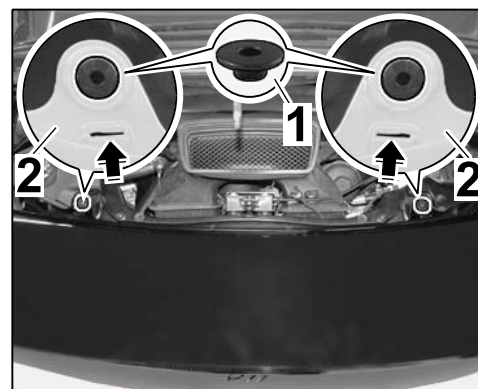

Figure 18
- 3.7.4 Insert two collar bore bushes (20 x 7 x 7.5) in the rear spoiler (⇒ *Figure 18*).
- 3.7.5 In the viewing window (⇒ *Figure 18 -arrows-*), check whether the rear spoiler is touching the lock (mounting adapter). Pull the rear spoiler as far as it will go to the rear again if necessary.